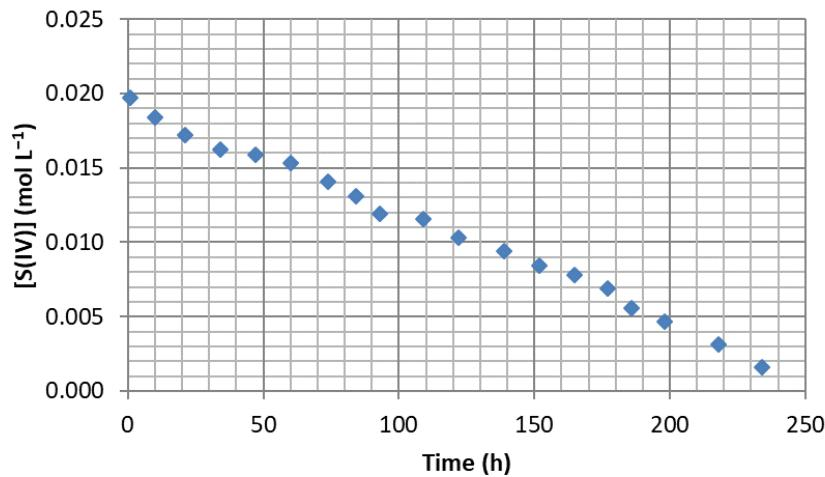

Figure 1: $[S(IV)]$ as a function of time for the fructose - glycine - sodium metabisulphite $S(IV)$ reaction
The first experiment (A) was carried out by adding $n_{\text{Fru},\text{A},0} = 1 \text{ mol}$ of fructose, $n_{\text{Gly},\text{A},0} = 0.5 \text{ mol}$ of glycine and $n_{\text{S(IV)},\text{A},0} = 0.02 \text{ mol}$ of **S(IV)** at the same time to a 1 L sodium acetate/acetic acid buffer. Every 15 hours (roughly), an aliquot of 1 mL was extracted from the reactive medium, put in a cell of $l = 1 \text{ cm}$ and a drop of Ellman's reagent was added. The absorbance was measured after stirring. Results obtained from this experiment are shown in figure 1.
4. **Choose** a wavelength to measure the absorbance of the aliquots of experiment (A).